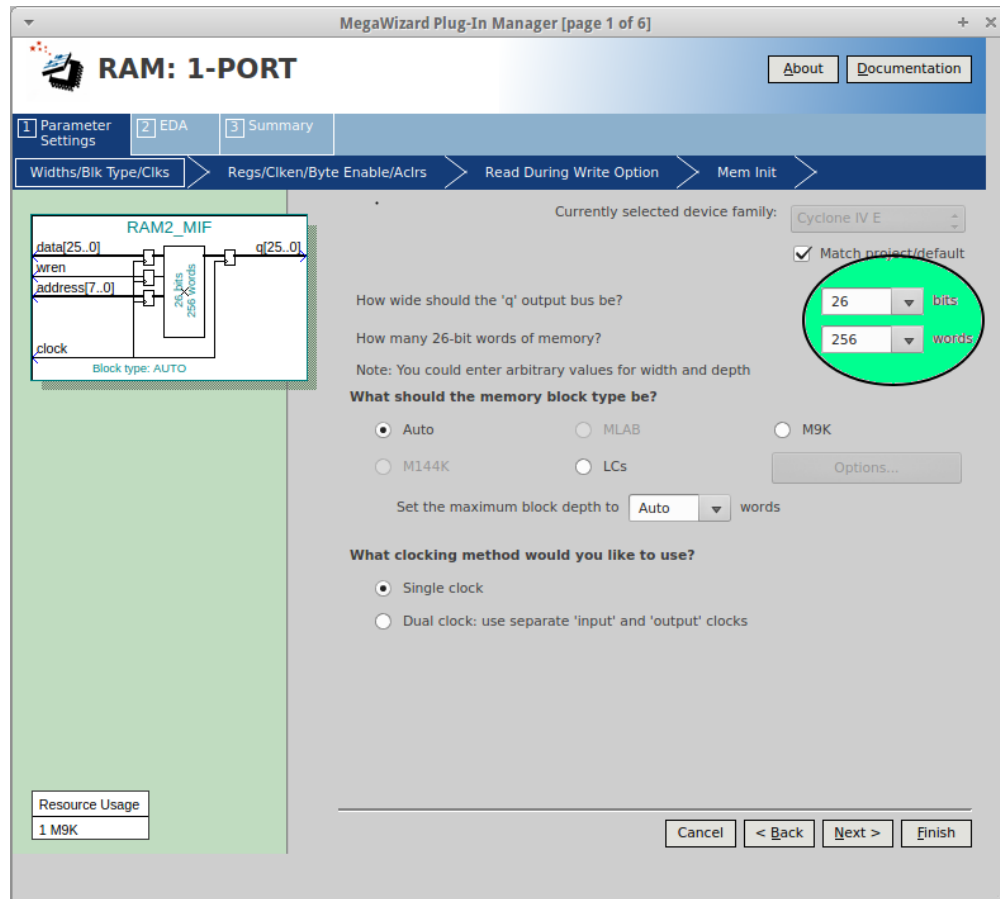

Figure 5: Megawizard RAM: 1-PORT Configuration.
2. You should have a MegaWizard window open now, like the one shown in Figure 5. Select the appro-